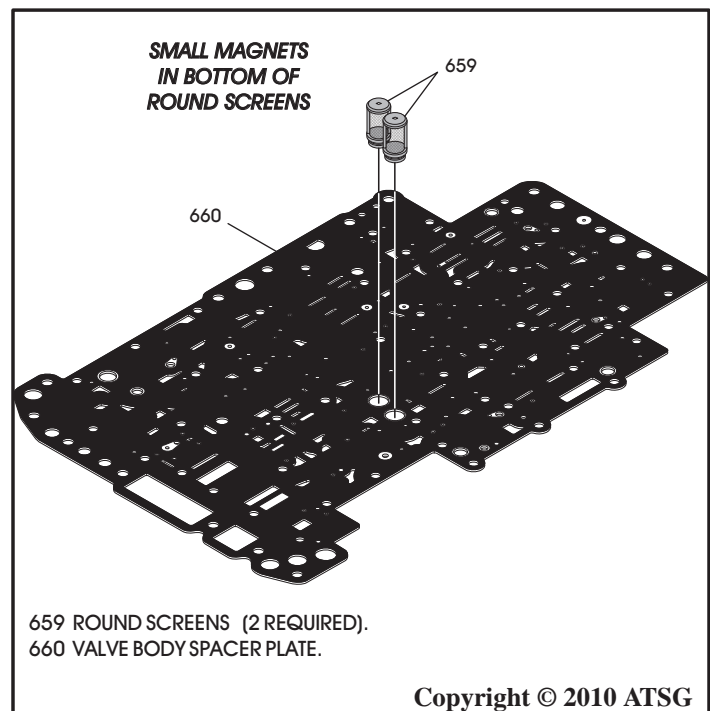

Figure 177
18. Install the two round screens into spacer plate with the plate oriented as shown in Figure 177, and the open end of screens toward the spacer plate.